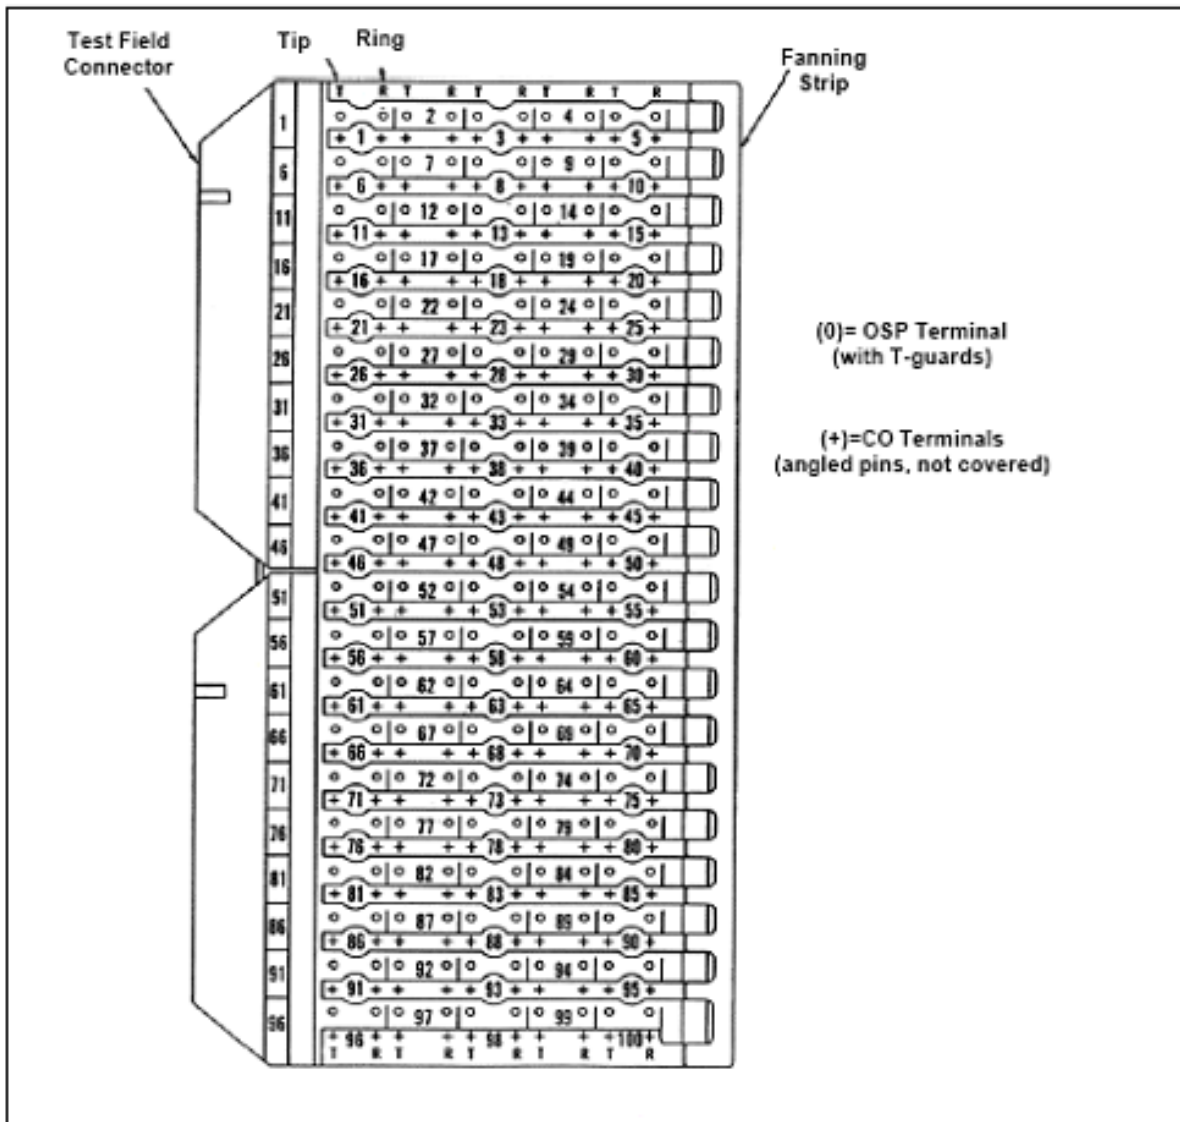

Figure 13 – C-377 Connector Terminal Assignments (viewed from wire-wrap side)
- 8.10 Connect OSP pairs. Identify and separate each 25-pair binder group into five 5-pair groups, feeding them through the appropriate integral fanning strip holes on the connector base (Figure 3). Strip and connect each pair to its respective OSP terminals, building in sufficient slack to permit later changing of connector to its straight-on position without bending wires. (Use Table 1 and figure 13 as references in assigning pairs to terminals.)